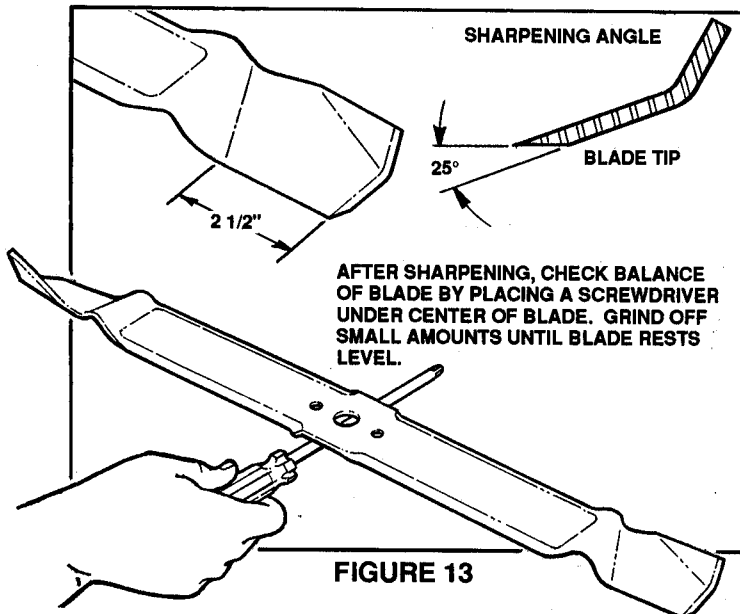

FIGURE 13
3. Sharpen Blade when the cutting edges become dull if the Blade is in otherwise good condition. When dull, the grass cut ends will be ragged and usually turn brown soon after mowing. For best results, remove the Blade and sharpen the underside on a grinding wheel at an angle of 22 to 28 degrees. The cutting surface should extend in about 2 1/2" from the tips. Check the Blade after sharpening to determine that it is still balanced. It will cause excessive vibrations if unbalanced. See Figure 13.